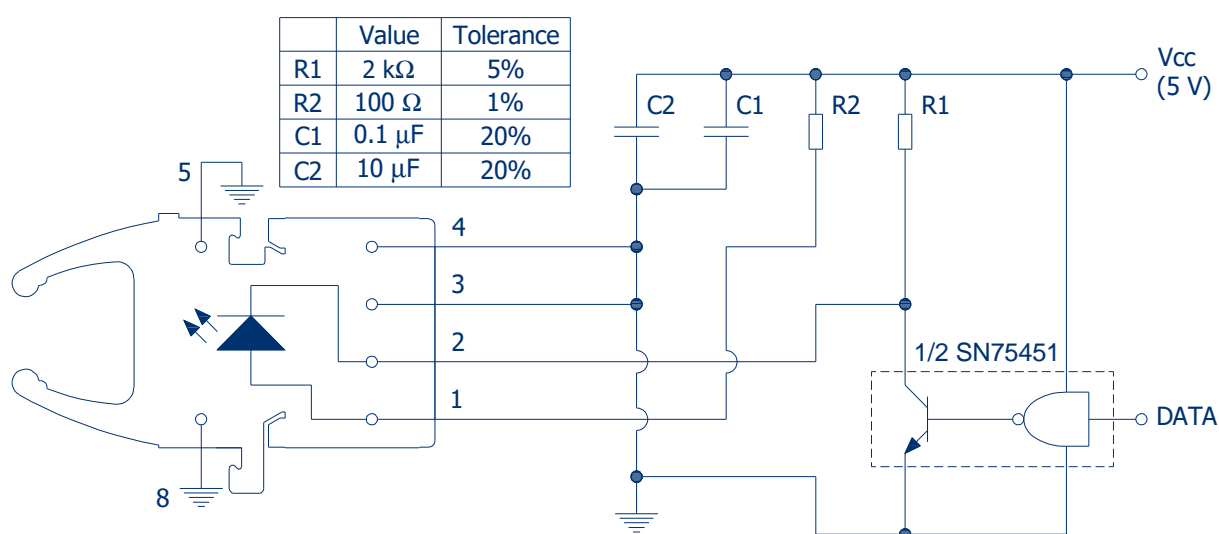

FIGURE 2
Transmitter propagation delay and rise/fall time definitions as per application circuit of Figure 2
3. As measured in the given application circuit (inverting) as shown in Figure 2 with 50 cm of 0.5 NA POF